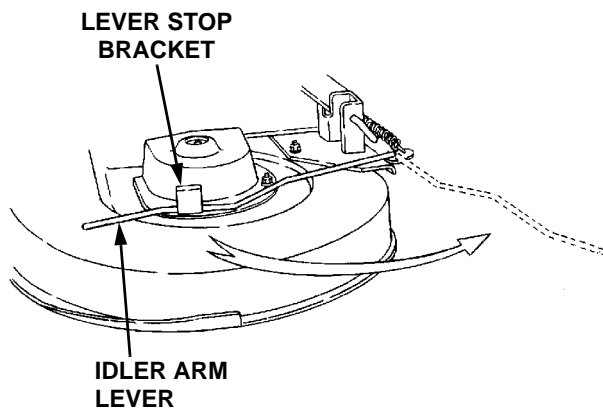

Figure 40
2. Lower the tractor implement lift handle to its lowest setting (adjust gauge wheels if necessary). Disengage the deck idler arm lever from its stop bracket and release the spring tension by rotating the lever out and rearward (See Figure 40).